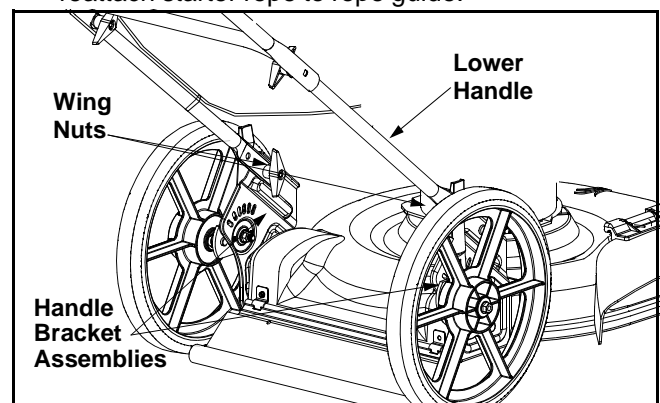

Figure 12
- Disconnect the handle from the handle bracket assemblies by removing the wing nuts. See Figure 12.